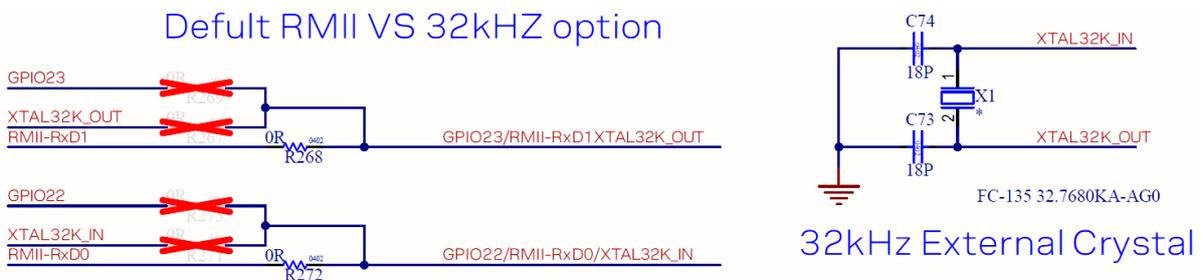

Figure 27: Schematic – 32 kHz crystal
**GPIO21** and **GPIO23** multiplex some of the RMII signals and the external crystal oscillator option. Figure 27 shows how to demultiplex those GPIOs.